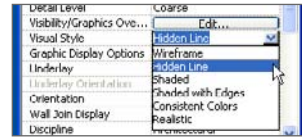
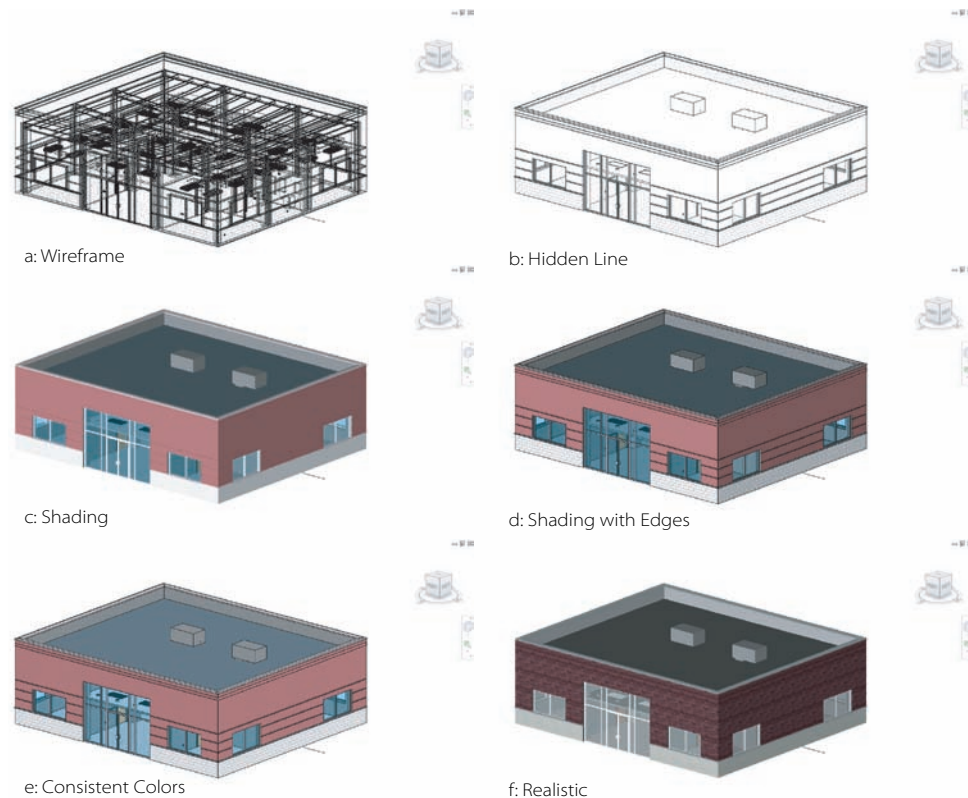

Figure 5.12
Figure 5.13
**Visual Style** Visual Style is probably a familiar concept to you consisting of Wireframe, Hidden Line, Shaded, and Shaded with Edges (see Figure 5.12). New to 2011 are Consistent Colors and Realistic. The Consistent Colors setting turns off the light source used in the Shaded and Shaded with Edges settings so that the colors are not altered by the shadows that are cast on the model. Realistic is the first step toward real-time material representation in views. Refer to Figure 5.13 for examples of each.